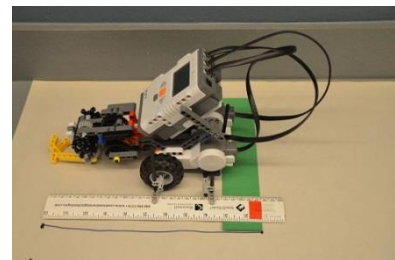

Figure 14
- Measures it to see how close they were to the intended length. See Figure 14